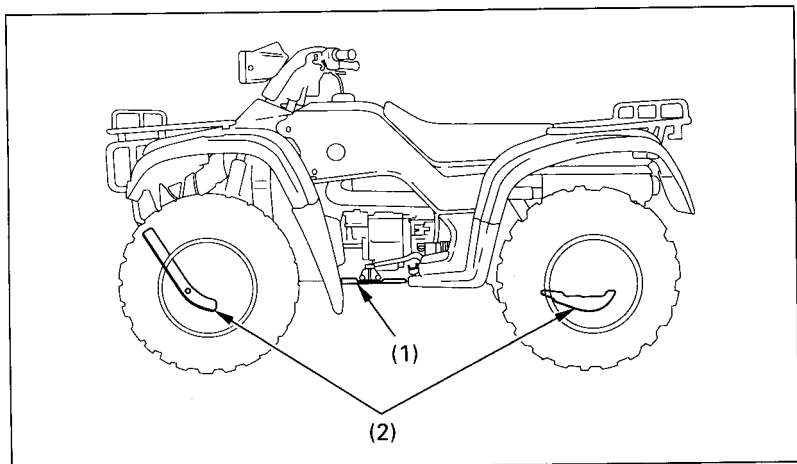

Fig. 4-37 (1) Engine guard
The engine guard (Fig. 4-37) protects the engine crankcase. The skid plates (2) protect the frame and rear final gear case. Check the guard and plates for cracks, damage or looseness at intervals shown in the Maintenance Schedule (page 83—84). Replace the guard and plates with new ones if they are cracked or damaged. If the guard and plate bolts are loose, tighten them securely.